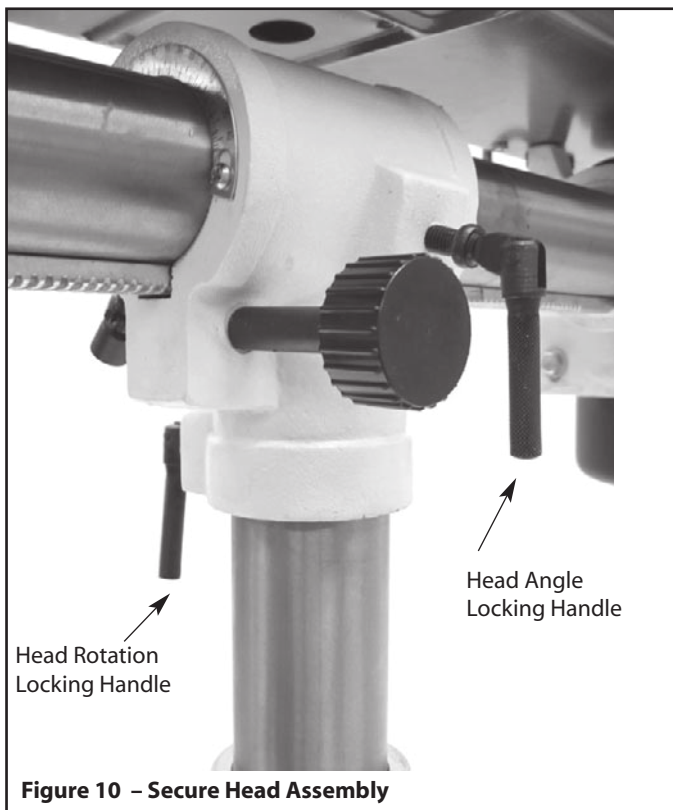

Figure 10 – Secure Head Assembly
- Secure head assembly into position by tightening the locking handles (see Figure 10).